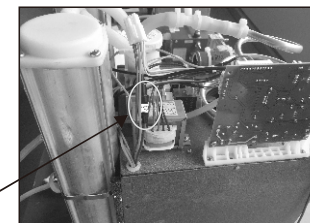

Figure 12
- Turn off the power, open the top cover, unscrew the screws and take off the store box. Unscrew the fuse box counterclockwise and replace the fuse tube. (Figure 12)